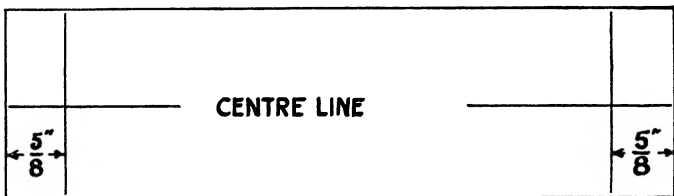

Fig. 83
25. Draw a centre line on the reverse side of the cloth and also mark the overlap at the head and tail, fig. 83.